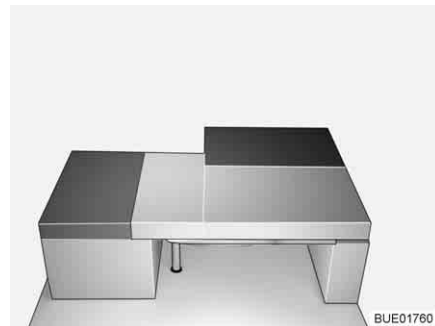

Fig. 137 After conversion
- Place the back cushion of the bench on the table (in front of the seat cushion of the bench, see Fig. 137).
- Place the back cushion of the lateral bench on the table (between the seat cushion of the lateral bench and the cushions of the bench, see Fig. 137).